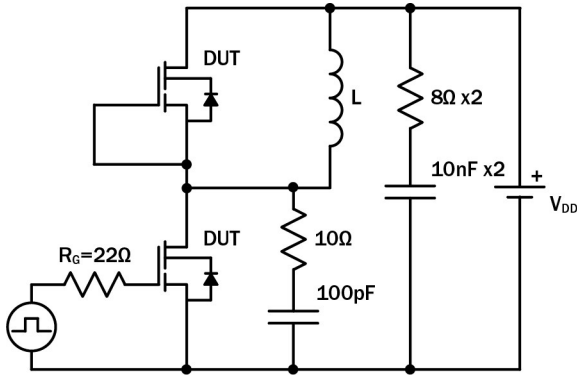

Figure 14. Switching Time Test Circuit
- Reflects both static and dynamic on-resistance; dynamic on-resistance test setup and waveform; see Figures 14 and 15 for conditions